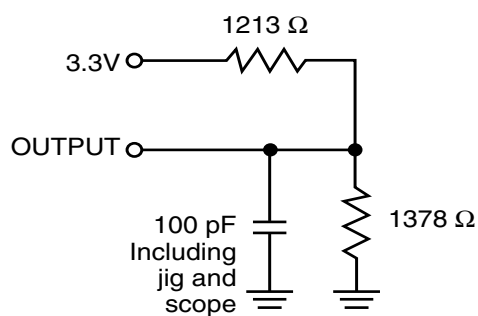

Figure 1a.
1. Test conditions assume signal transition times of 5 ns or less, timing reference levels of 1.5V, input pulse levels of 0 to 3.0V and output loading specified in Figure 1a.
| Output Load                                  | See Figures 1a and 1b |